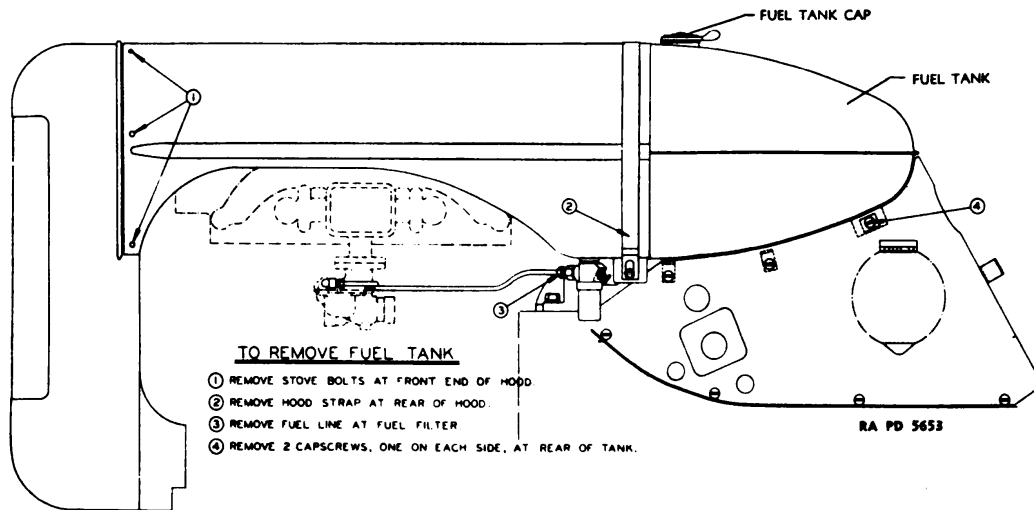
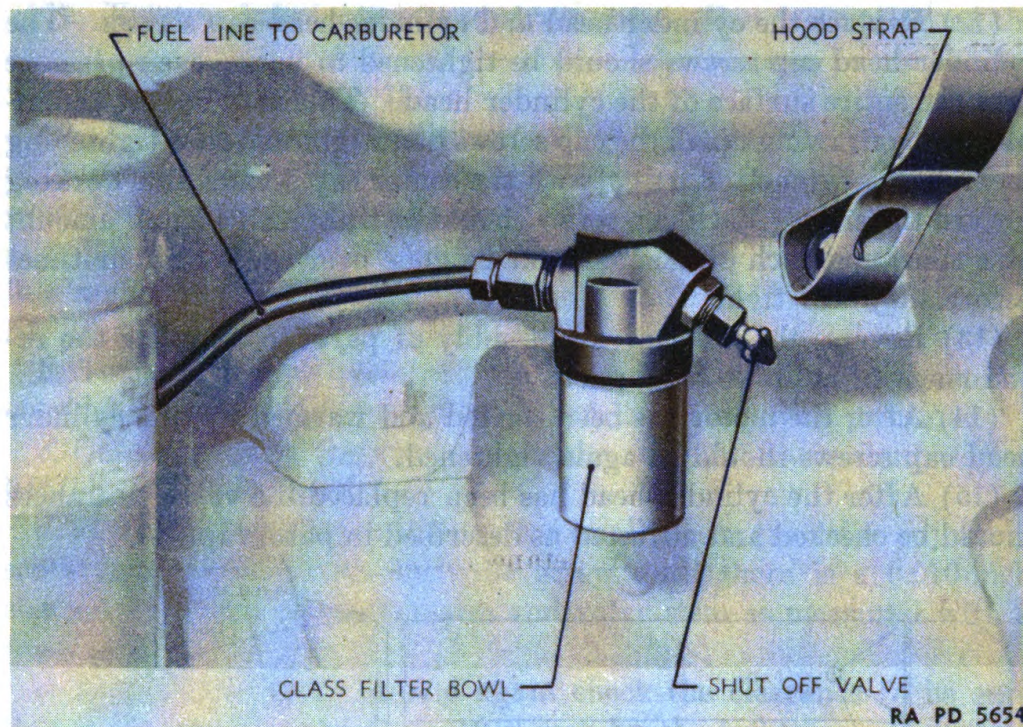

FIGURE 15.—Removal of fuel tank.
FIGURE 16.—Fuel strainer.
c. Replacement.—Fuel tanks will be replaced when excessive rust is present or when leaks develop. To remove the fuel tanks, proceed as follows (see fig. 15) :
- (1) Remove stove bolts at front end of hood.
- (2) Remove hood strap at rear of hood.
- (3) Remove fuel line at fuel filter and drain tank.
- (4) Remove two cap screws, one on each side at the rear of the tank.
- (5) To replace, proceed in the reverse order of removal.
45. Fuel strainer.—*a. Description.*—A fuel filter (fig. 16) is located at the bottom of the fuel tank connected between the fuel tank and the carburetor. The fuel filter should be inspected daily and cleaned when necessary.